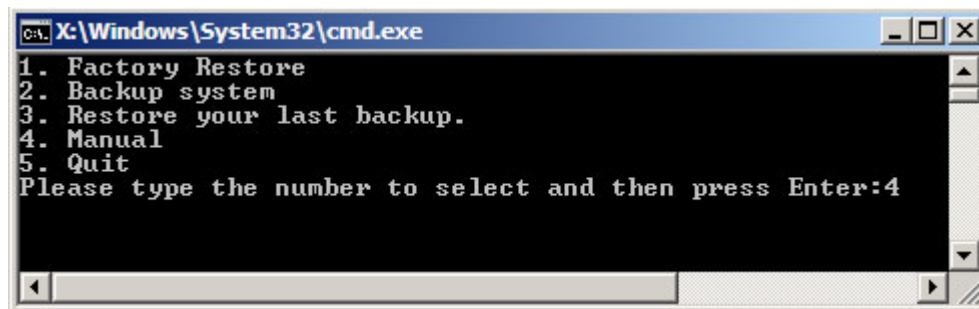

Figure D-11: Recovery Tool Menu
Step 2: The recovery tool menu appears. Type <**4**> and press <**Enter**>. (**Figure D-11**)